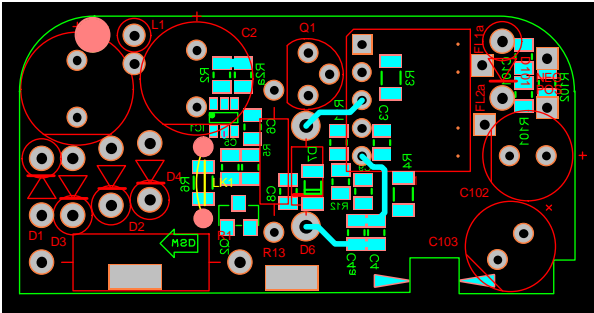

Figure 6: Auxiliary Decoupling Path
The auxiliary power rail needs tightly decoupled to reduce any EMI resulting from the switching action of Q1. The short auxiliary decoupling path is shown with PCB tracks in Figure 6
- Auxiliary Decoupling - Figure 6